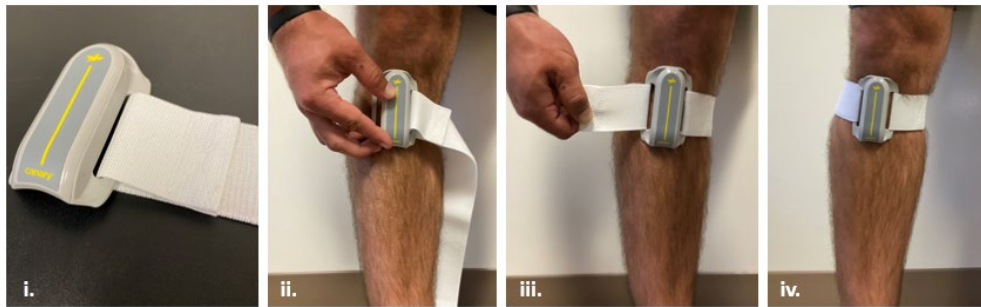

Figure 10: Attaching CanarE with Strap
- a. If using the CanarE Straps, follow the steps below as shown in Figure 10: